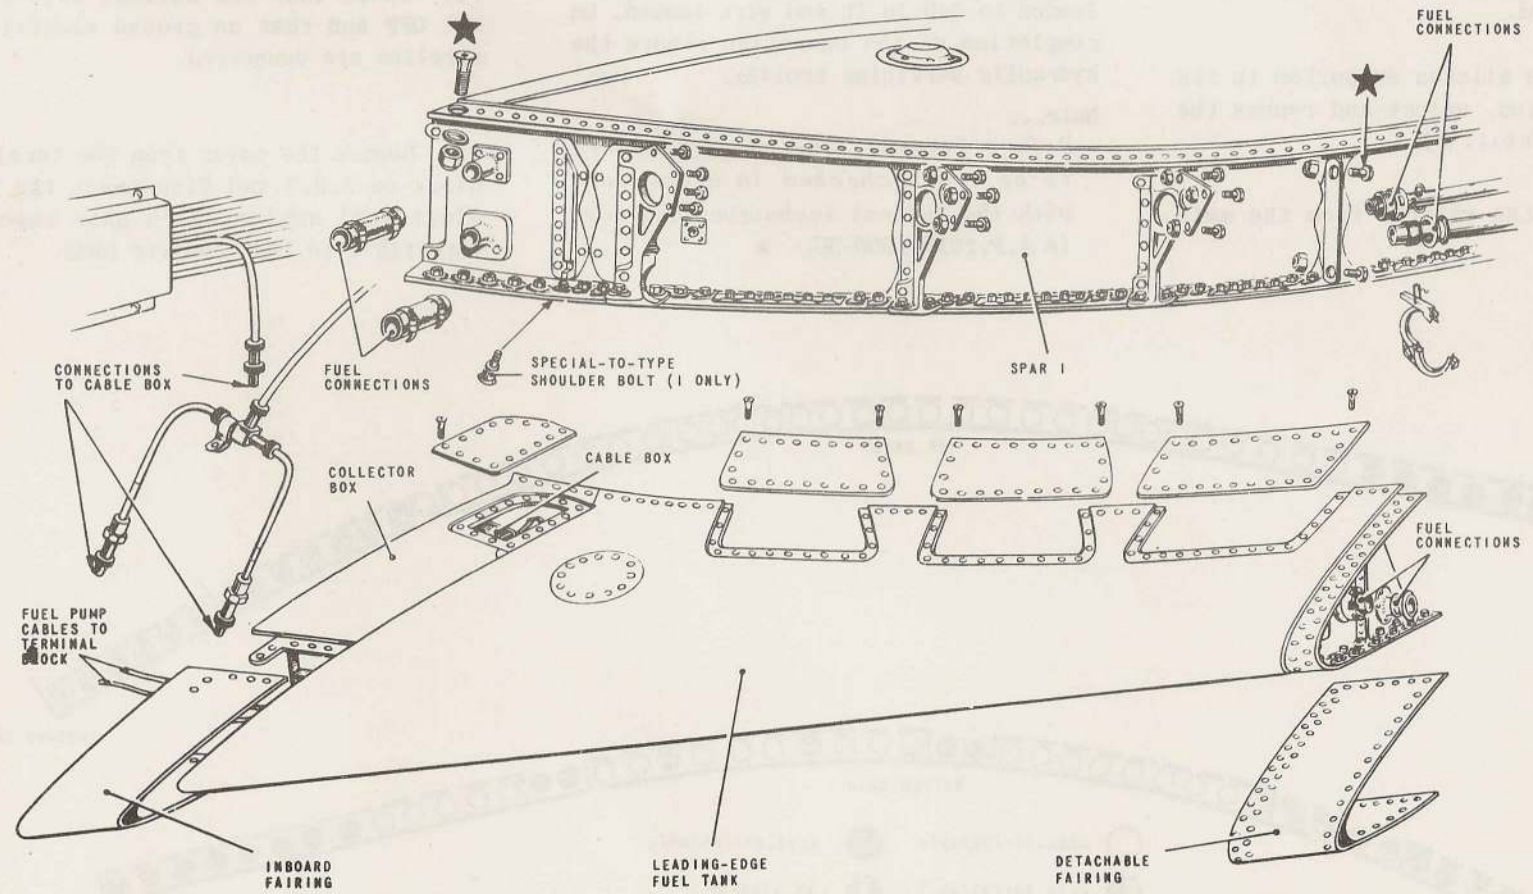

FIG.15. LEADING-EDGE FUEL TANKS-REMOVAL AND ASSEMBLY
**Leading-edge fuel tanks (fig.15)**